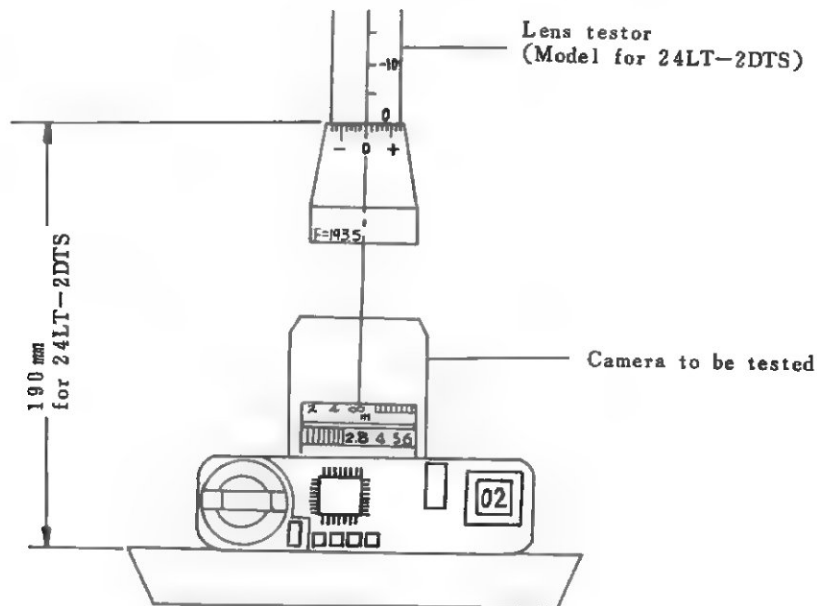

Fig 57
- ④ Set the Focusing Ring at ∞ (infinity) and set the aperture ring at f 2.8. See (Fig 57).
- ⑤ Set the lens tester (colimator) at 0
- ⑥ Completely pushing the Shutter Release Button, while the Shutter Blades can be opened and then check.